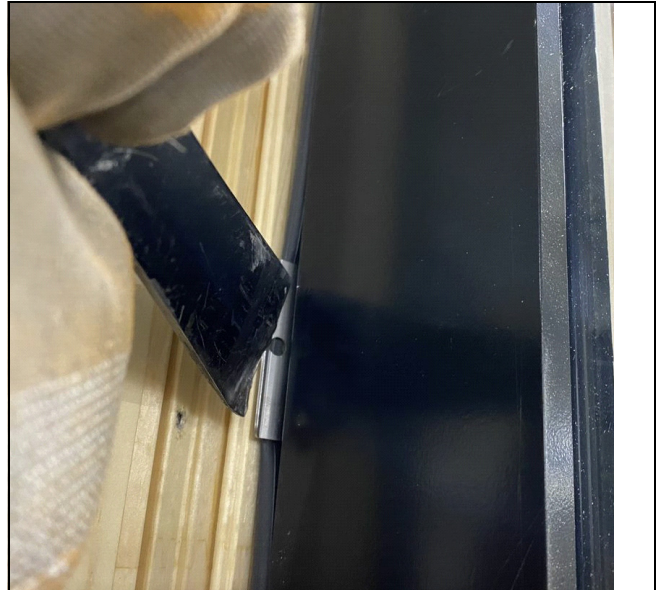

Figure 10
6. Use a hard tool and bend bracket against the head jamb/jamb wood: See Figure 10.